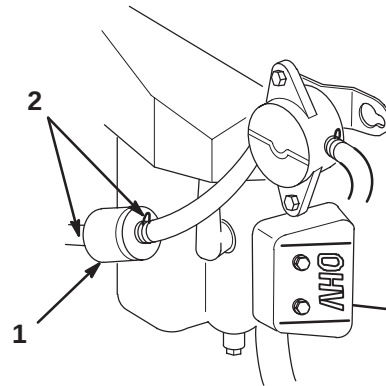

Figure 45
3. Squeeze the ends of the hose clamps together and slide them away from the filter (Fig. 45).